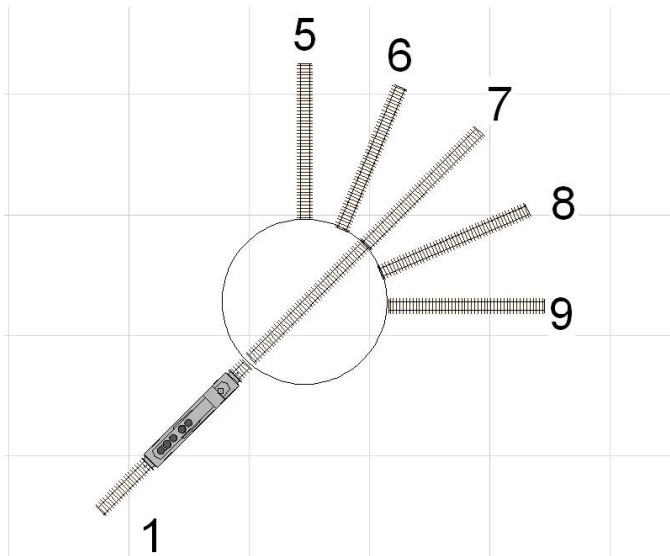

Figure 3
- 4. SETUP OPTIONS** – Depending on user preferences up to three yard lead tracks can be ignored by the APR. Basically the question to be answered is, do you want to switch the power off of one or more yard lead tracks when the bridge is not pointing to one of them. We recommend that the yard lead tracks be switched for the length of your longest locomotive. You won't have locomotives accidentally running into the pit this way. The worst scenario is having a locomotive fouling the pit when the turntable is running. The PTC III stepper motor has enough torque to cause damage to the bridge if it gets caught on an errant locomotive. See Appendix A for example setups. If the yard leads are switched the relay assignments start with track 1, and progress around in a clockwise direction regardless of the numbers skipped in your PTC keypad assignments. It skips unused positions on the rotary switch as well. See Figure 3.